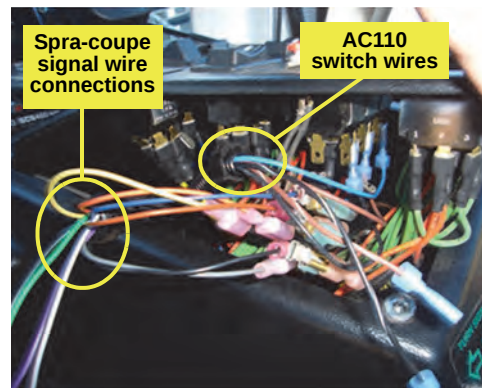

Figure 2f: Boom switch wiring complete
- g. Repeat steps d to f for the remaining boom switches (Figure 2f).